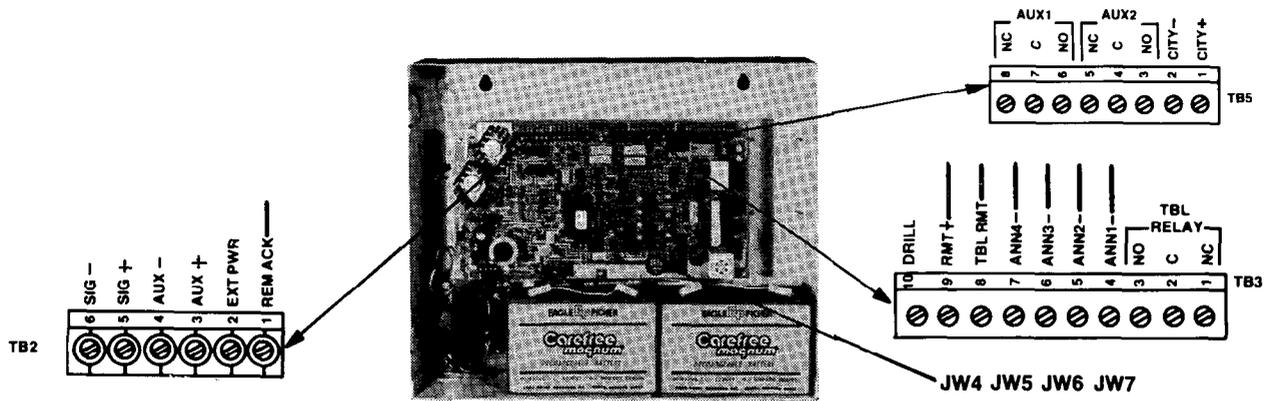

FIGURE 16
- A. Connect a wire between the RMT + terminal (TB3-9 [Fig. 16, Page 14]) and the EXT PWR terminal (TB2-2).
7. If using a remote annunciator or remote annunciator with remote trouble station and remote acknowledge switch, connect to panel as follows (see Fig. 16, page 14, for reference):
8. If 4100-9810 alarm relay module is used, connect it to TB2, TB3, and TB5 on the panel as follows (refer to Figure 16):